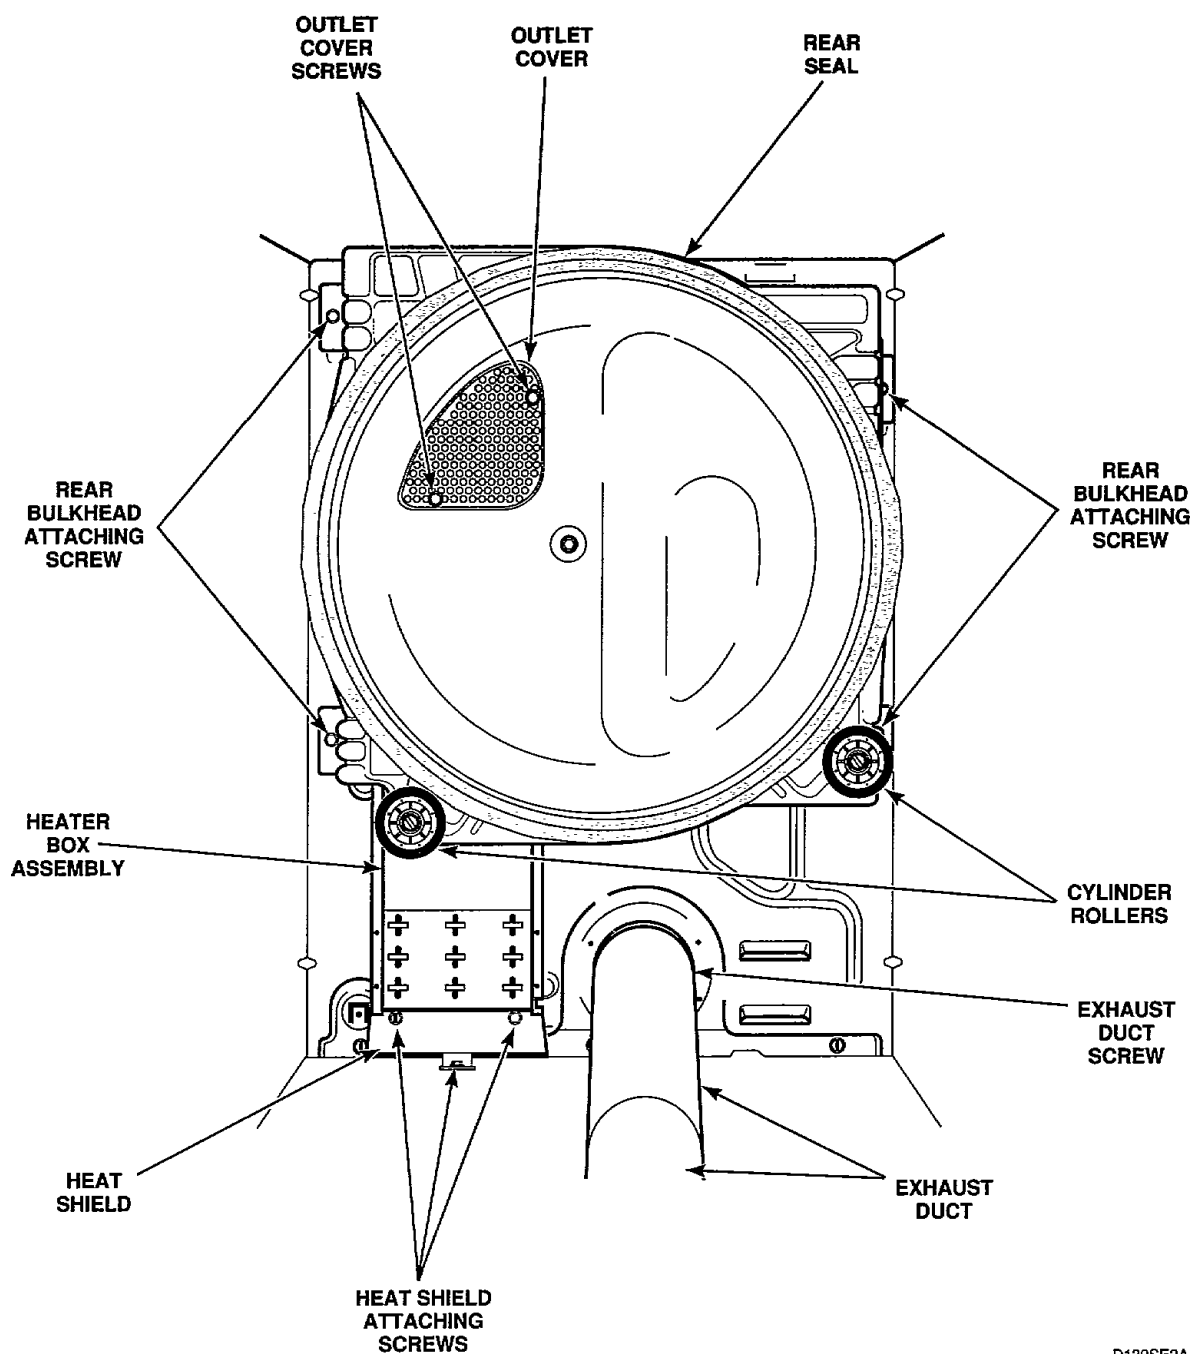

Figure 43
- m. Pull rear cylinder seal from flanged edge of bulkhead, *Figure 43*.
Open door and remove two screws holding outlet cover to rear bulkhead, *Figure 43*.
- k. Remove screw holding heat shield to dryer base, *Figure 43*.
- l. While supporting bulkhead, remove the four screws holding rear bulkhead to dryer cabinet, *Figure 43*, then lift complete assembly out of dryer.
- m. Remove two screws holding heat shield to heater box, *Figure 43*.